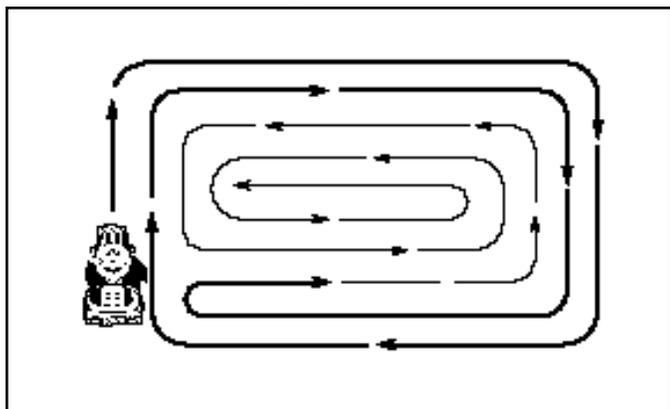

FIG. 12
- When mowing large areas, start by turning to the right so that clippings will discharge away from shrubs, fences, driveways, etc. After one or two rounds, mow in the opposite direction making left hand turns until finished (See Fig.12).